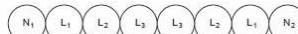

Figure H.52.1 – Special configuration for 6 parallel single-core cables in a flat plane (see 523.7)
- 1) in a flat plane, see Figure H.52.1,